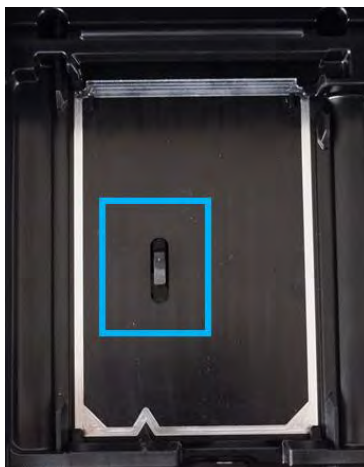

Figure 5.24: Location of the presence switch in the Alto instrument.
3. The cartridge loading orientation is important to ensure that the cartridge is sitting properly inside the instrument. To ensure that this is done correctly, the cartridge must sit flat and should not be at an angle. The notch in the cartridge ensures that it is oriented correctly in the cartridge bay. The cartridge will be detected inside the instrument due to the presence switch located within the cartridge loading bay (Figure 5.24).